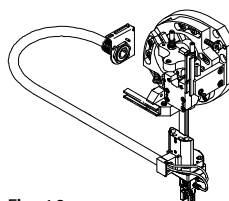

Fig. 19
- Make sure that the moving pneumatic tubing and electric cables are laid correctly (example Fig. 19). Installation kit MKRP (see chapter “Accessories”) enables the tubing and cables to be grouped together in a flexible installation tube.